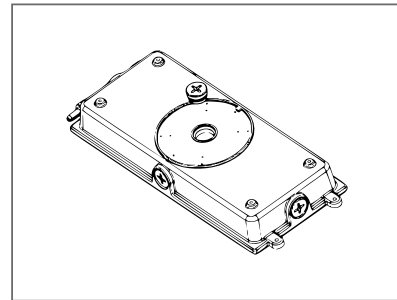

Figure 2
2. Unscrew the cover of the entry hole and remove it. ( Figure 2)